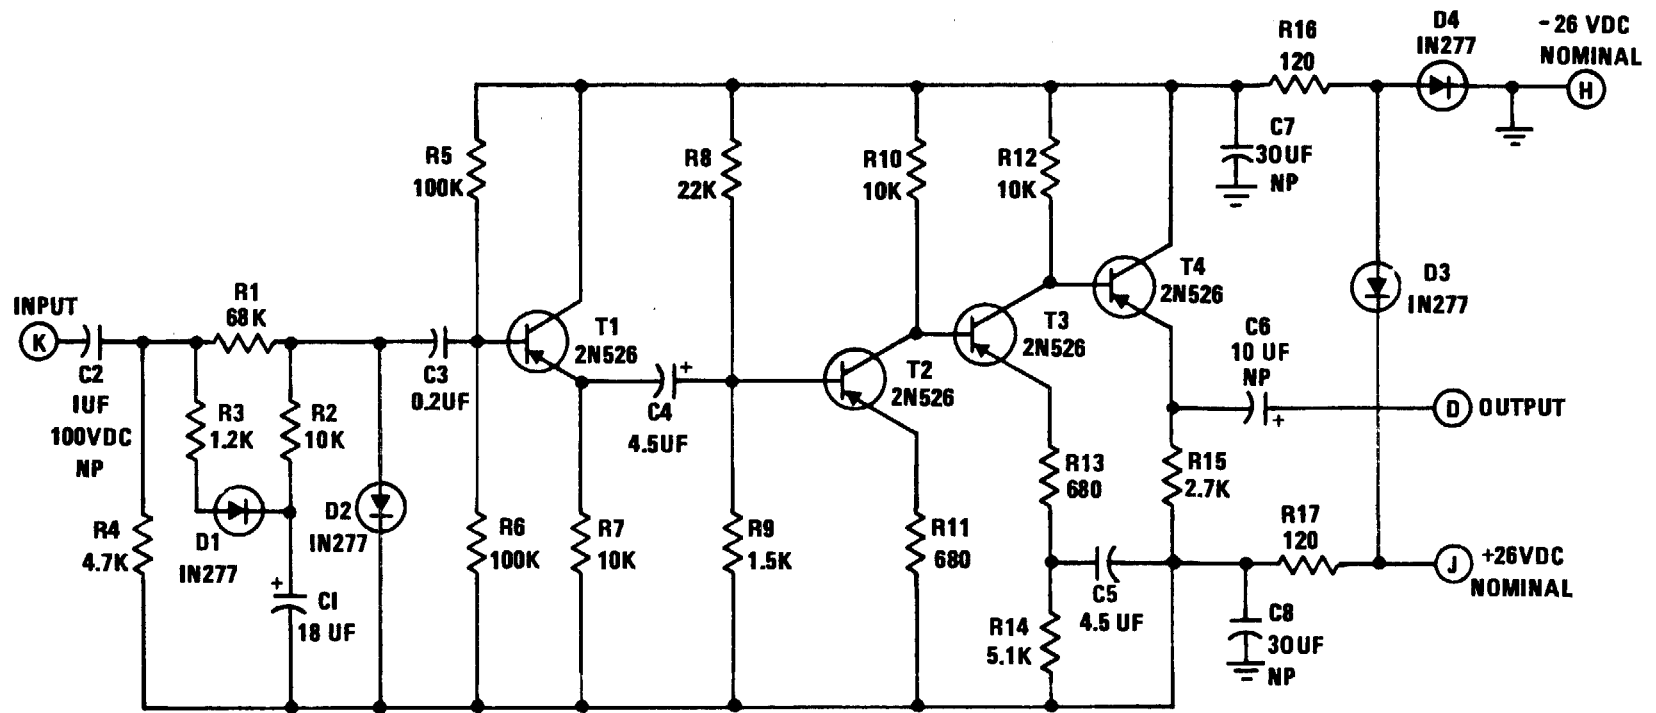

Figure 6-8. Audio Volume Compression Unit Circuit
6-11 AUDIO VOLUME COMPRESSION CIRCUIT . See figure 6-8.
a. Volume levels of all signal and intercom lines are maintained at a constant 4DBM (zero decibels, maximum) level by use of a standard compression circuit as shown in figure 6-8. The basic circuit consists of a 4-transistor stage compandor, with output voltage level limited at emitter of Q4.